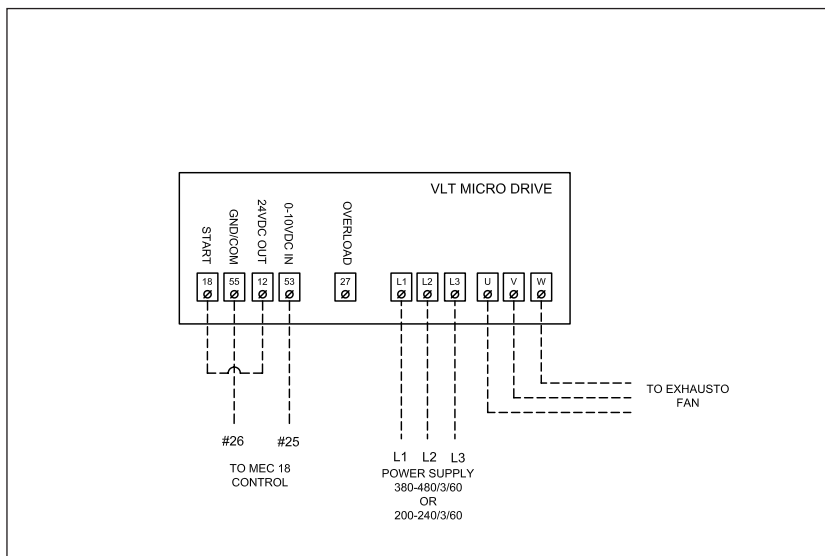

Fig. 11
Wire the VLT Micro Drive variable frequency drive according to fig. 11.
- Connect the switch to terminals 16, 17 and 18 as shown in fig. 11.